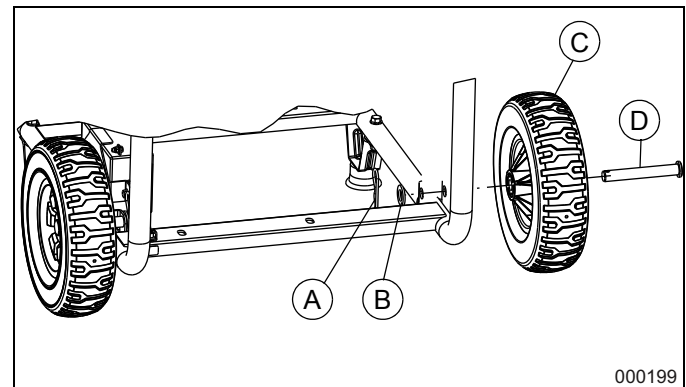

Figure 2-1. Wheel Assembly
1. Install the Wheels as follows (Figure 2-1):